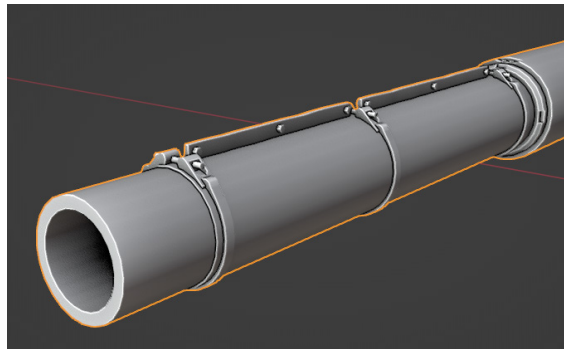

Figure 9.38 – Finished gun
8. Inset a face with *I* and extrude it inward with *E* at the end of the barrel. Feel free to add some more details on top of the gun, as shown in *Figure 9.38*: